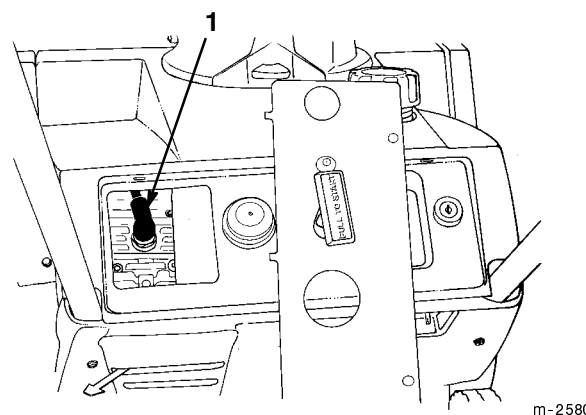

Figure 17
4. Disconnect the wire from the spark plug and remove the spark plug (Fig. 17).
5. Disconnect the wire from the spark plug (Fig. 17).